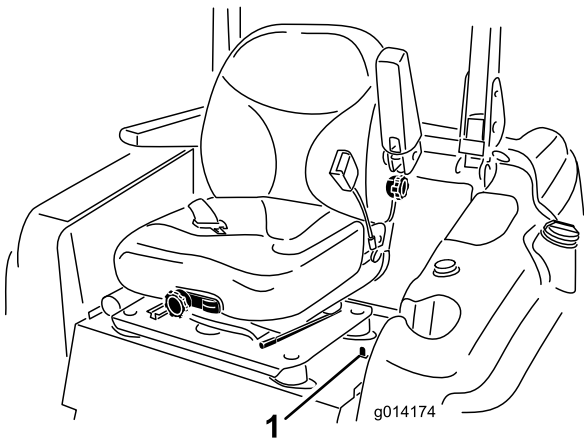

Figure 1
4. Move the seat latch (located on the left-hand side of the seat) rearward to unlatch the seat, then pull forward on the top of the seat until the seat latch catches the supporting seat plate (Figure 1).